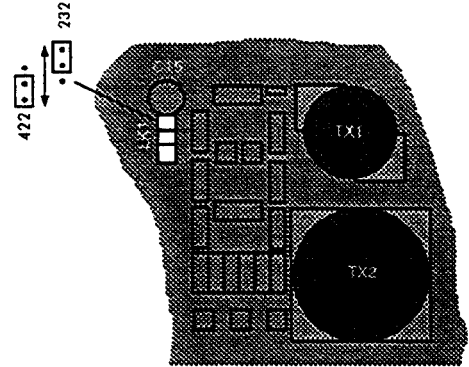

Figure 2-1 Communications mode 232/422 selection
The power supply board also carries the standard RS 232 and RS 422(485) communications channel. The circuitry level shifts and isolates the external signals to those within the instrument. RS 232 or 422(485) are selected with links on the power supply board as shown in figure 2-1.